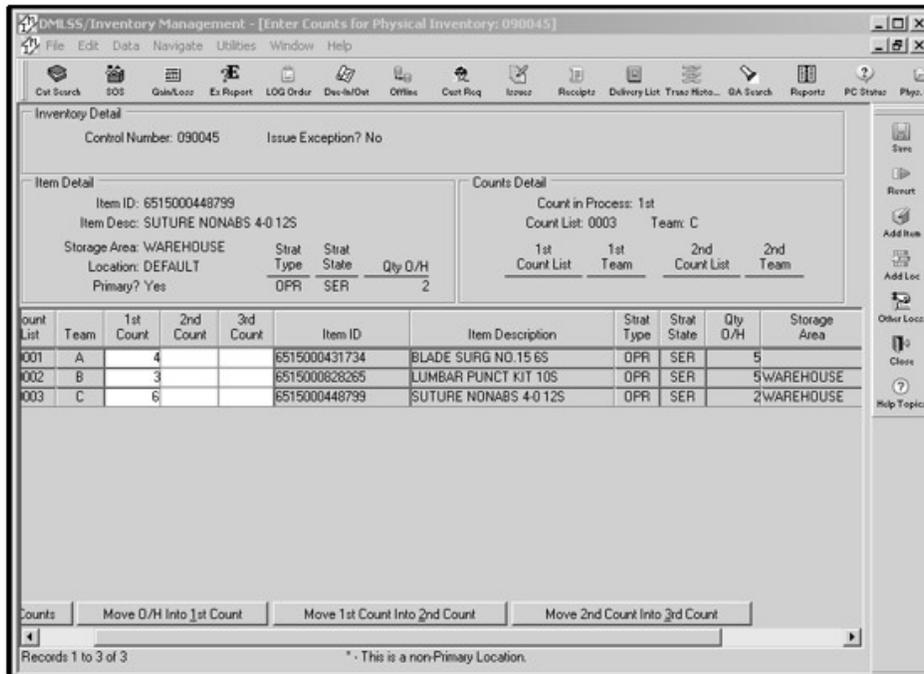

Figure 12. Enter Counts for Physical Inventory Window
(5) The “Criteria for Entering Counts” window and the “Enter Counts Physical Inventory” (Figure 12) window allow users to select an assigned ICN and enter inventory counts, add items to the current inventory, and view other item locations.